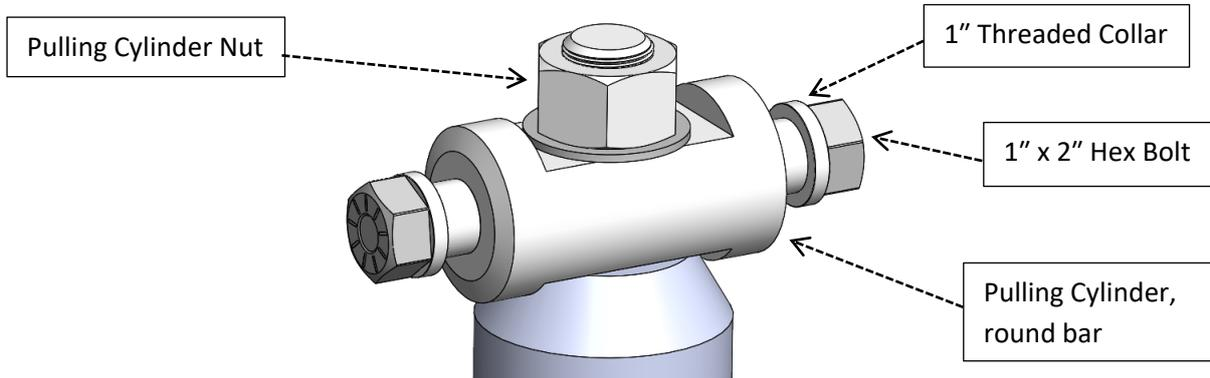

Figure 7 – Cylinder Attachments
5.8 If it is not already pre-assembled, take two threaded collars onto two 1" x 2" Hex Bolts, with the flange under the bolt head, as shown in Fig. 7, thread the bolts into each side of the pull cylinder upper clevis. Tighten both to 100 lbs-ft (135 Nm).